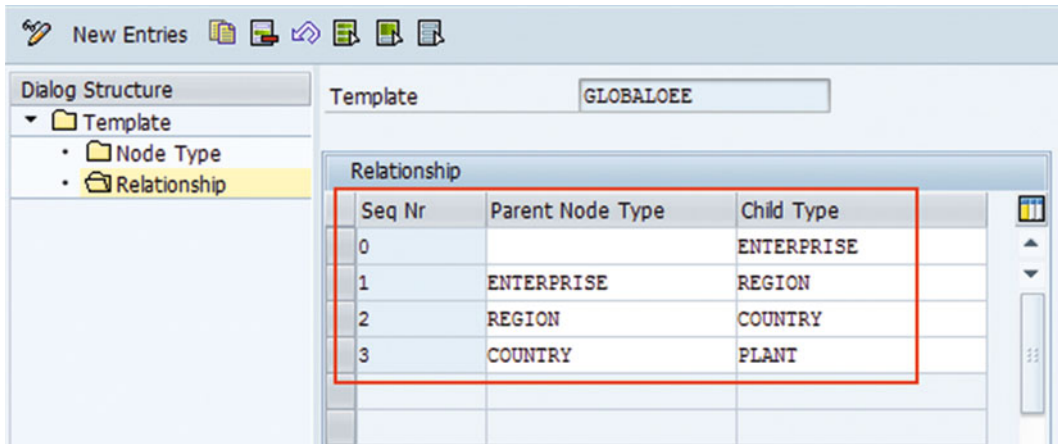

Figure 3-27. Configure global hierarchy template's node relationships
7. Enter the following parent-child relationships in a sequence as shown in Figure 3-27.